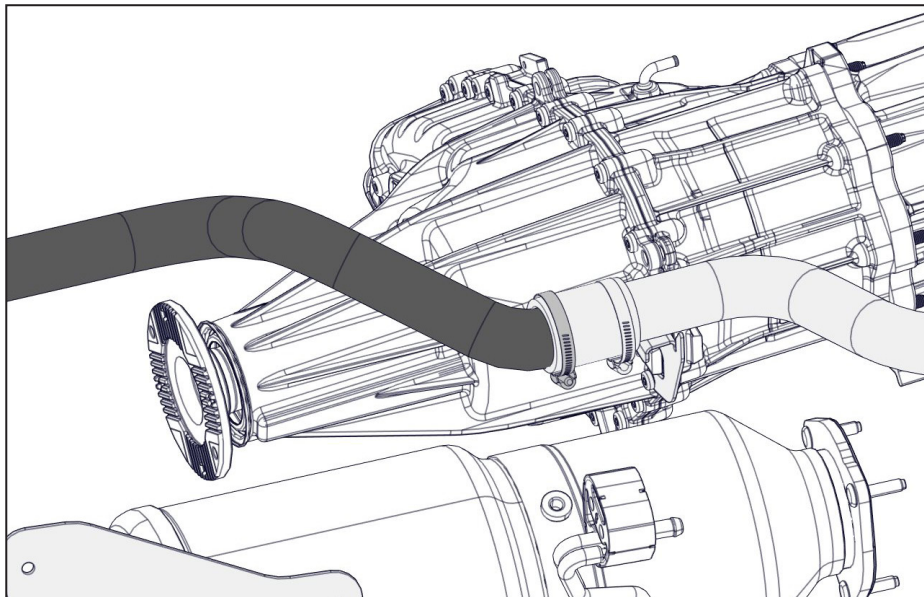

Figure 24 — Install filter side metal intake tube
- ☐ Install the filter side metal intake tube and secure it using a gear clamp (Figure 24).